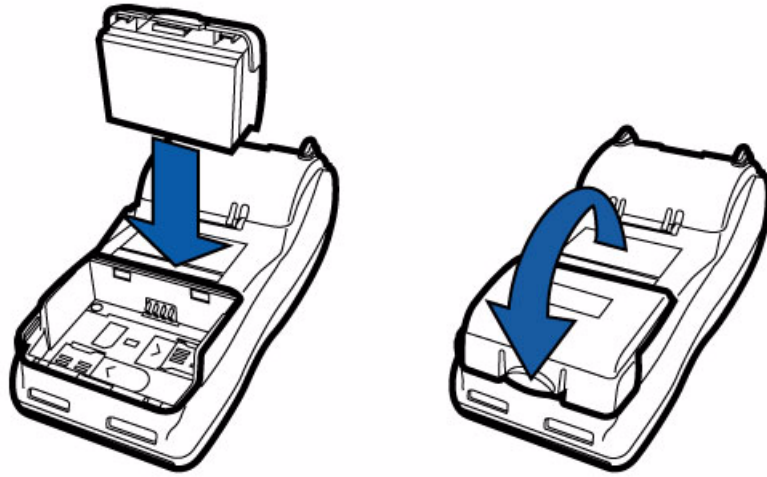

Figure 21 Installing the Smart Battery
- 7 Install the battery (see Figure 21).
- 5 Install the battery (see Figure 21).
The V×680 smart battery fits in a slot on the back of the V×680 terminal, as shown in Figure 21. The locking tab clicks when the battery is in place. The slot is keyed, so that there is only one way to insert the battery.